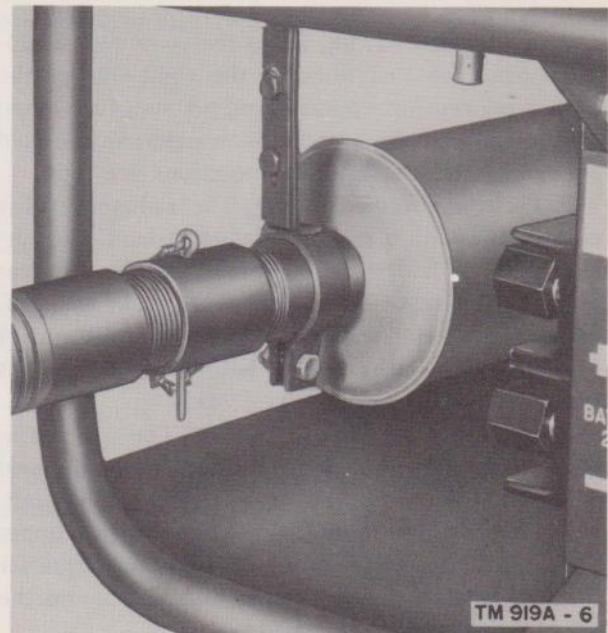

Figure 6. Exhaust tube connection to muffler.
*a. Mounting on Foundation.* Determine whether the equipment is to be installed indoors or outdoors, and follow the instructions in subparagraphs (1) or (2) below, as applicable.
- (1) For permanent indoor installation, fasten the set to the floor or foundation. Four holes are located in the mounting pads on the bottom four corners of the lower frame. Fasten the set to the floor with  $\frac{1}{2}$ -inch bolts or lag screws of proper length.
- (2) For outdoor installation, locate the set on level ground. If this is impossible, the alternator end of the set must be the lower end.
*b. Connecting Exhaust Tube.* For indoor operation, connect the exhaust extension tube to the muffler (fig. 6). Extend the tube to an exterior wall by the most direct route with as few turns as possible. Pitch the tube downward so all condensate will